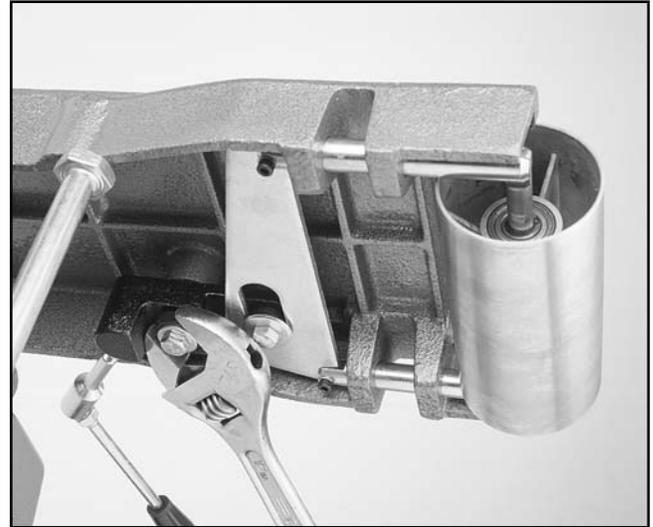

Figure 10.
2. Use a large open end adjustable wrench and carefully rotate the eccentric to increase or decrease tension. Remember: The belt should not sound like a drum when plucked. If it does, decrease the tension. **Figure 10.**